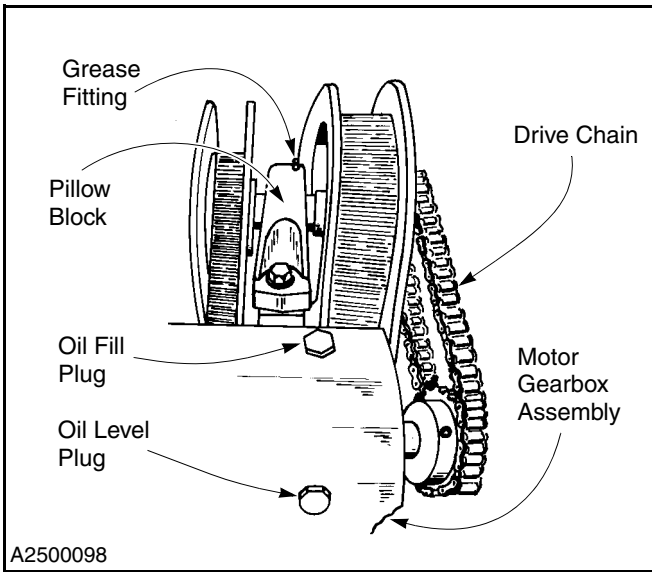

Figure 37
2. **Drive Chains:** The drive chains should be lubricated with a good-quality grade of heavy lubricating oil. (See Figure 37.)
3. **Pillow Block Bearings:** Each end of the fabric drum is supported by a pillow block bearing. At the grease fitting on each bearing, lubricate the bearings using a lithium-based grease conforming to NLGI, Grade 2 Standard. Use a medium-viscosity, low-torque grease with an approved operating temperature range of -30° to $+200^{\circ}$ F. (See Figure 37.)